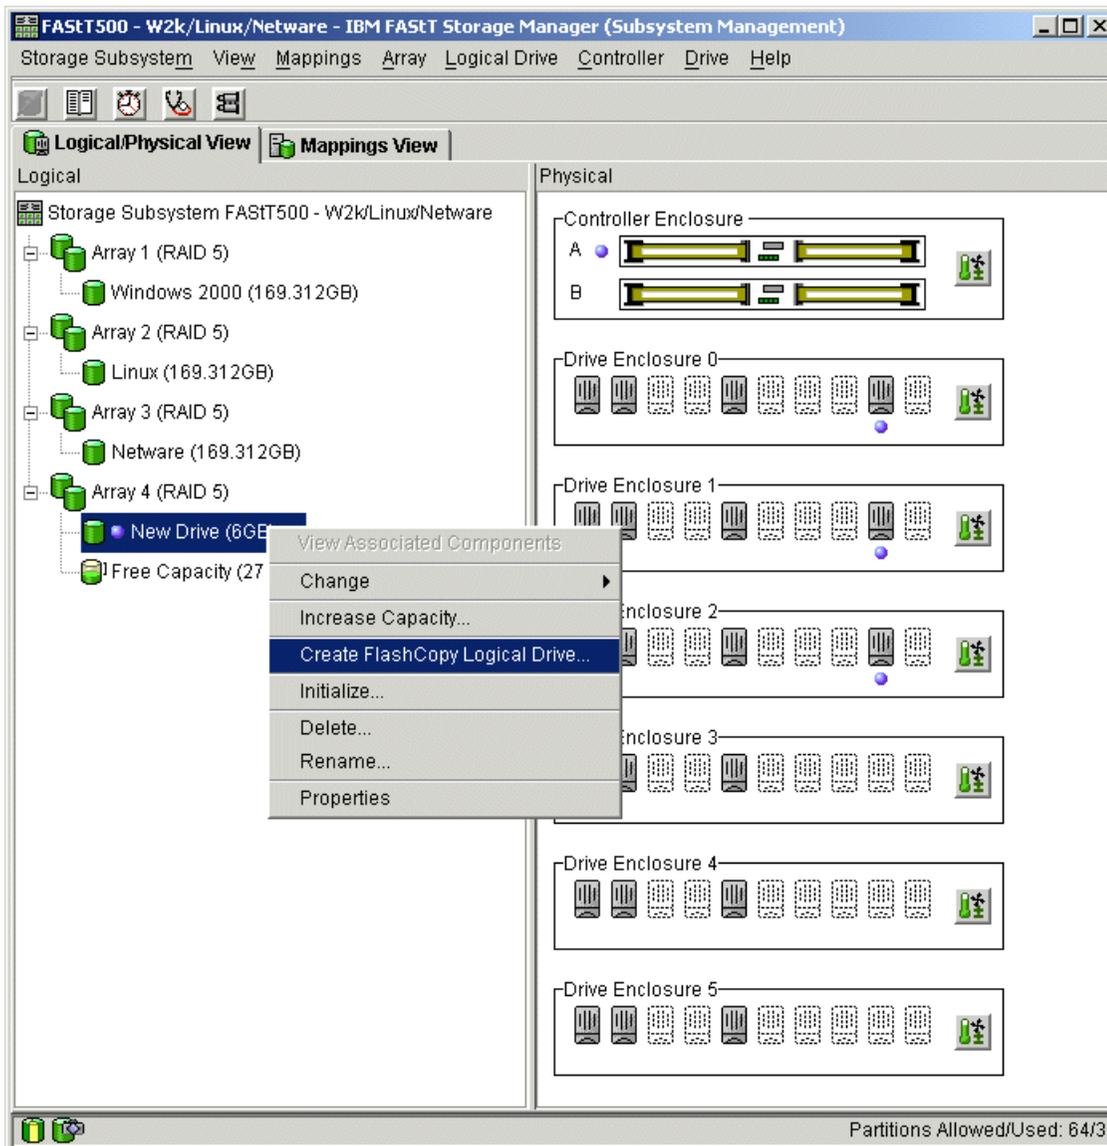

Figure B-6 Storage Manager 8 Subsystems Management window
1. Within the Subsystem Management window, right-click the logical drive you wish to copy (**NewDrive** in our example) and select **Create FlashCopy Logical Drive** (see Figure B-6):